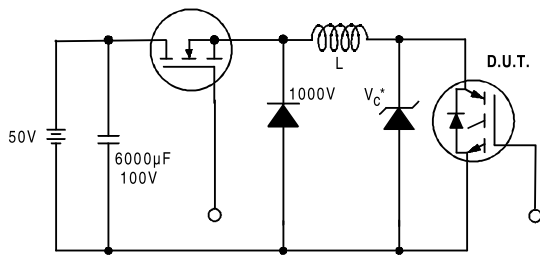

Figure 19. Clamped Inductive Load Test Circuit
- ② $V_{CC}=80\%(V_{CES})$, $V_{GE}=20V$, $L=10\mu H$, $R_G=5.0\Omega$ (figure 19)
- ③ Pulse width $\leq 80\mu s$; duty factor $\leq 0.1\%$.
- ④ Pulse width 5.0 μs , single shot.